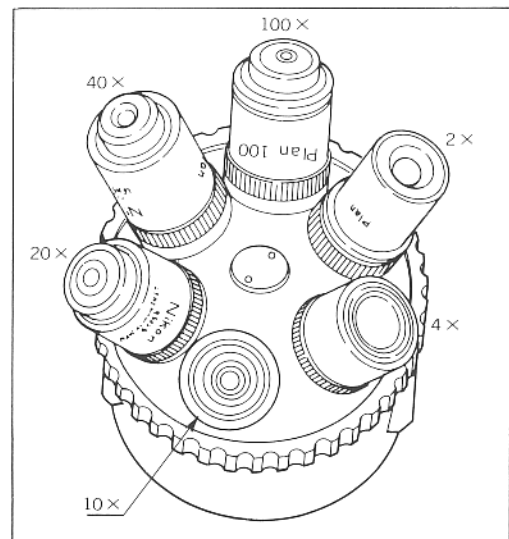

Fig. 10
- 1) Mount the objectives on the nosepiece, as shown in Fig. 10, in such positions that, when viewed from above, their magnifying power increases, as the nosepiece is revolved clockwise.